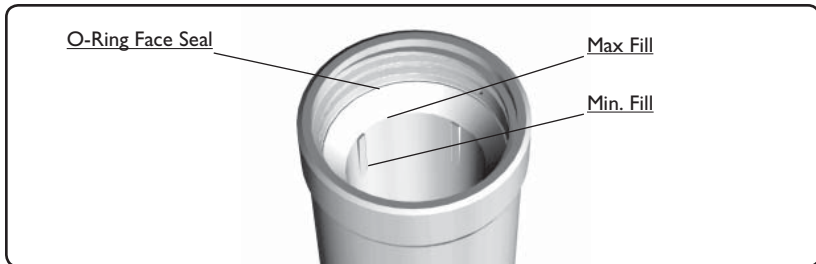

FIGURE 1
- *Fill to the top of the ribs found inside the jar. Do not fill above step in jar (o-ring face seal) (see figure 1, page 9).*